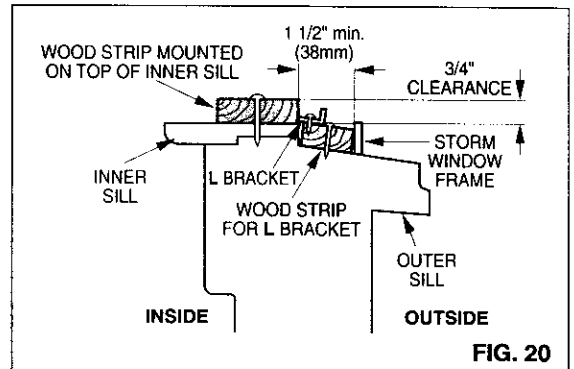

FIG. 20
- If storm window presents interference, fasten a 2" wide wood strip to the inner window sill across the full width of the sill. The wood strip should be thick enough to raise the height of the window sill so that the unit can be installed without interference from the the storm window frame. See FIG. 20.
- Install a second wood strip (approximately 6" long by 1 1/2" wide and same thickness as first strip) in the center of the outer sill flush against the back of the inner sill. Screw the L brackets into this strip. To support the lower guide, screw an "L" bracket (not supplied) into this strip as shown in FIG. 20.